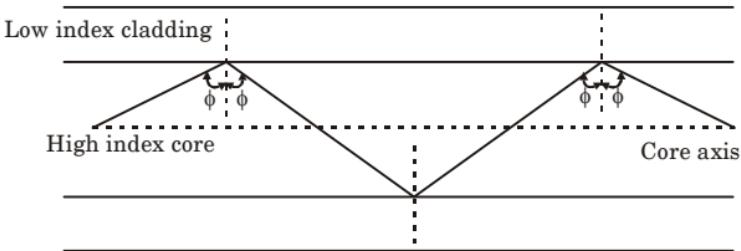

Fig. 9. The transmission of a light ray in a perfect optical fiber.
11. Fig. 9 explains the transmission of a light ray in an optical fiber via a series of total internal reflection. The ray has an angle of incidence ϕ at the interface which is greater than the critical angle and is reflected at the same angle to the normal. This light ray is known as meridional ray.